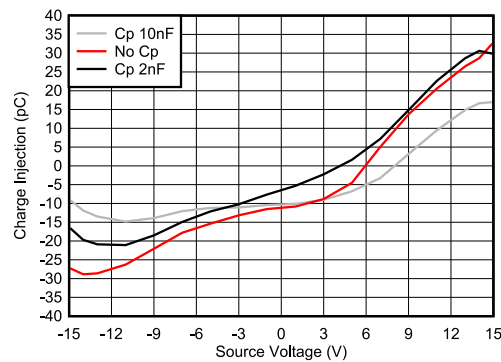

Figure 7-2. Charge Injection Compensation
The TMUX720x contains specialized architecture to reduce charge injection on the Drain (Dx). To further reduce charge injection in a sensitive application, a compensation capacitor (C_p) can be added on the Source (S). By design, the excess charge from the switch transition will be pushed into the compensation capacitor on the Source (S) instead of the Drain (D). As a general rule, C_p should be 20x larger than the equivalent load capacitance on the Drain (D). Figure 7-2 shows charge injection variation with different compensation capacitors on the Source side. This plot was captured on the TMUX7219 as part of the TMUX72xx family with a 100pF load capacitance.